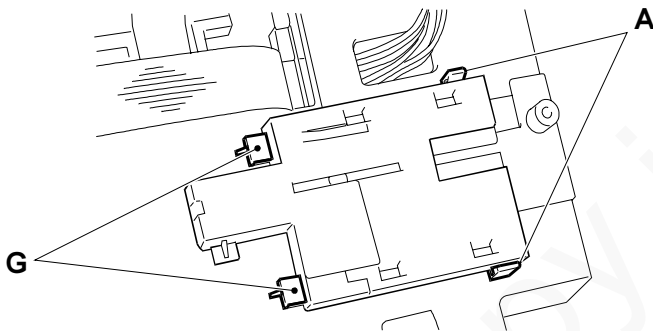

Fig. 7-36
- 2) Flip over the fax machine and release the pad by flexing the two tabs **A**, then extract it rightward (Fig. 7-36):
Caution When reassembling, ensure that the pad is properly inserted within its guides **G** (Fig. 7-36).